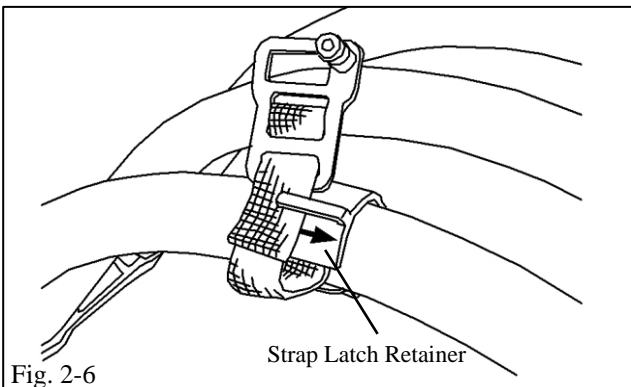

Fig. 2-6
- (2) When the Extender is in the inward position, clip the straps onto the Strap Latch Retainer as shown in Fig 2-6. This will prevent the buckles from rattling.